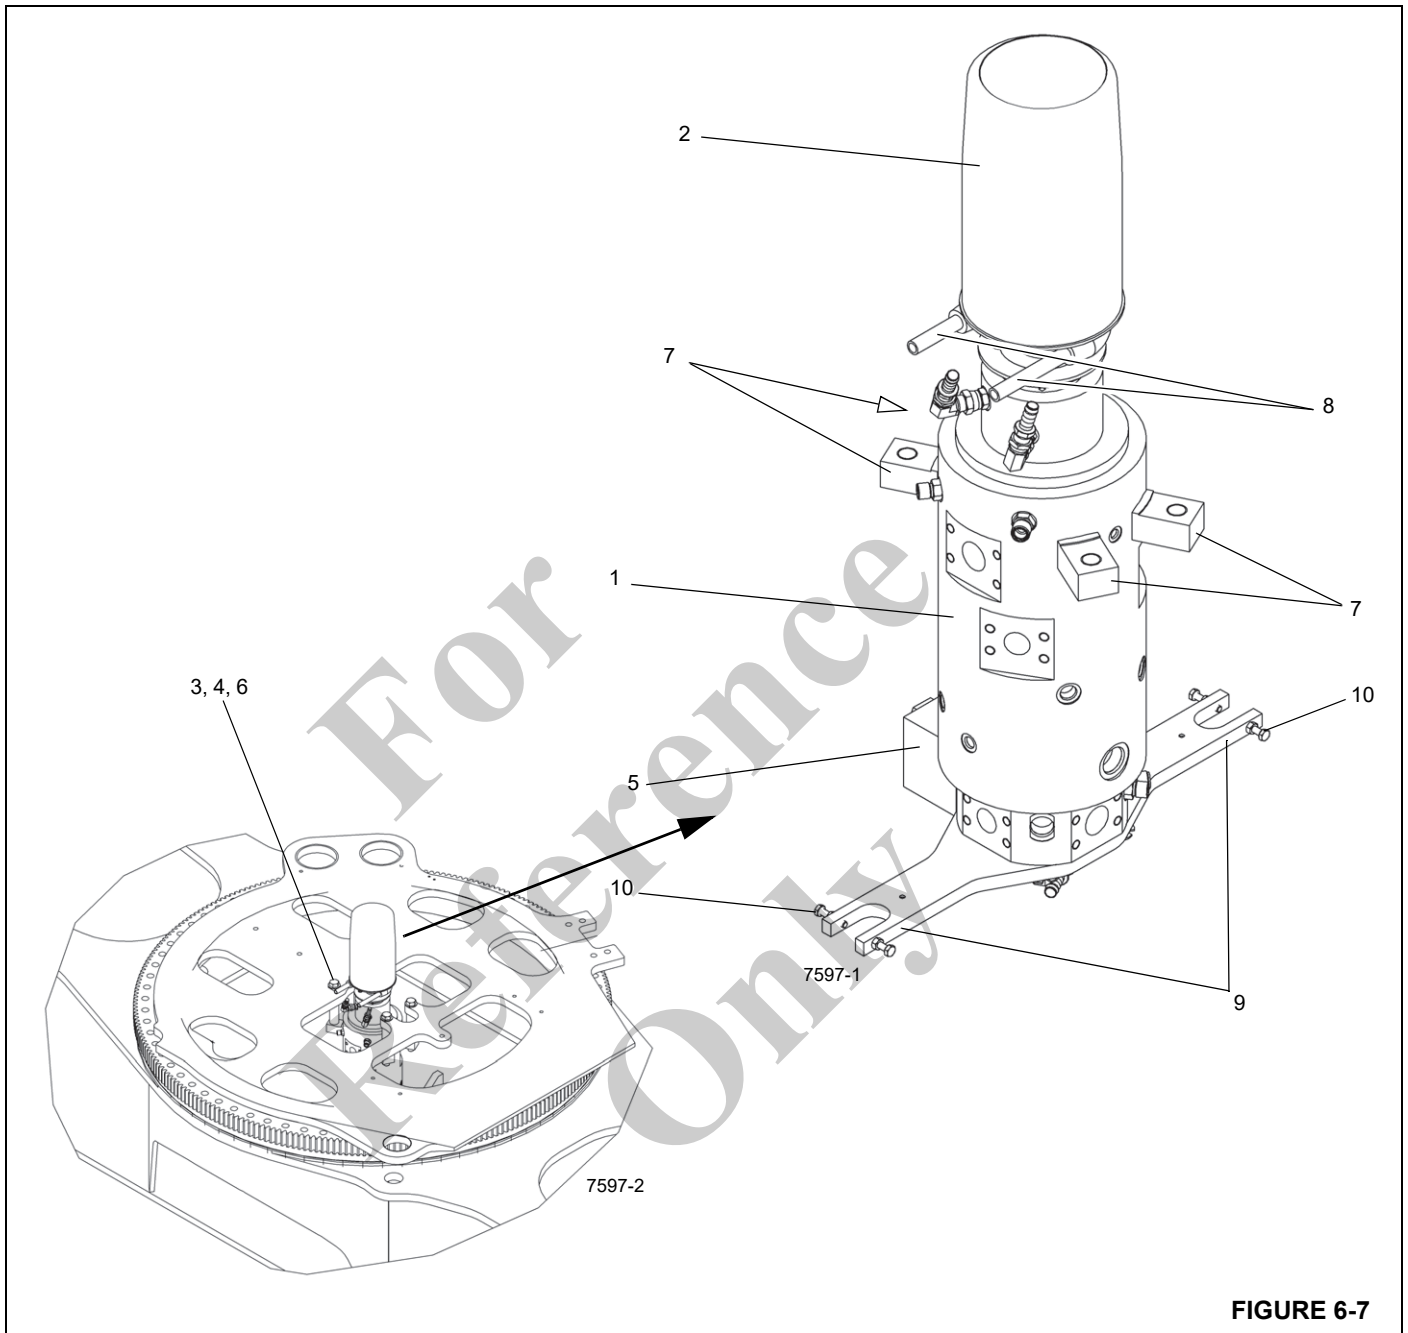

FIGURE 6-7
The swivel assembly consists of a 14 port hydraulic, air conditioning, water swivel and 46 conductor slip ring assy (2) (Figure 6-7). Solid connections cannot be used to transfer oil, heater hot water and electricity between the carrier and superstructure due to the continuous 360 degree swing. The use of swivels efficiently accomplishes this function.
The barrel portion of the hydraulic swivel is attached to the turntable base plate by four bolts (3), washers (4) and bushings (6) (Figure 6-7), which connect to mounting lugs (7) on the case. The spool portion of the swivel rides upon a thrust ring at the top of the swivel case. The spool portion is held stationary with the carrier by bolts, and bolt retainer plates attached to the swivel retainer plate (9) which engages the carrier frame lugs with bolts and jam nuts (10).